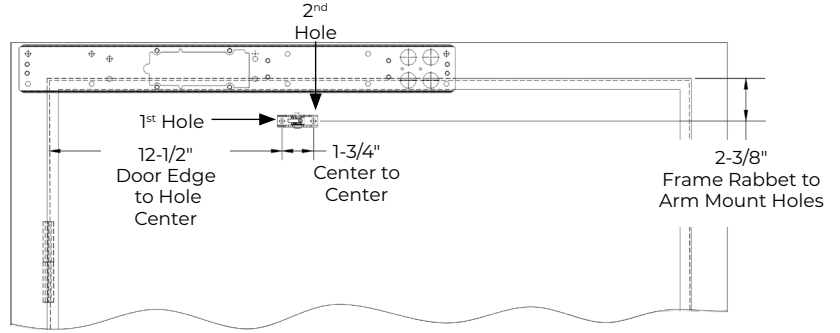

Figure 4
1. Using the template (available for download from www.nortonrixson.com), measure and mark the door for the first forearm shoe mounting hole. (Figure 4)
5. Using the forearm shoe as template, mark and drill the second mounting hole. (Figure 4)